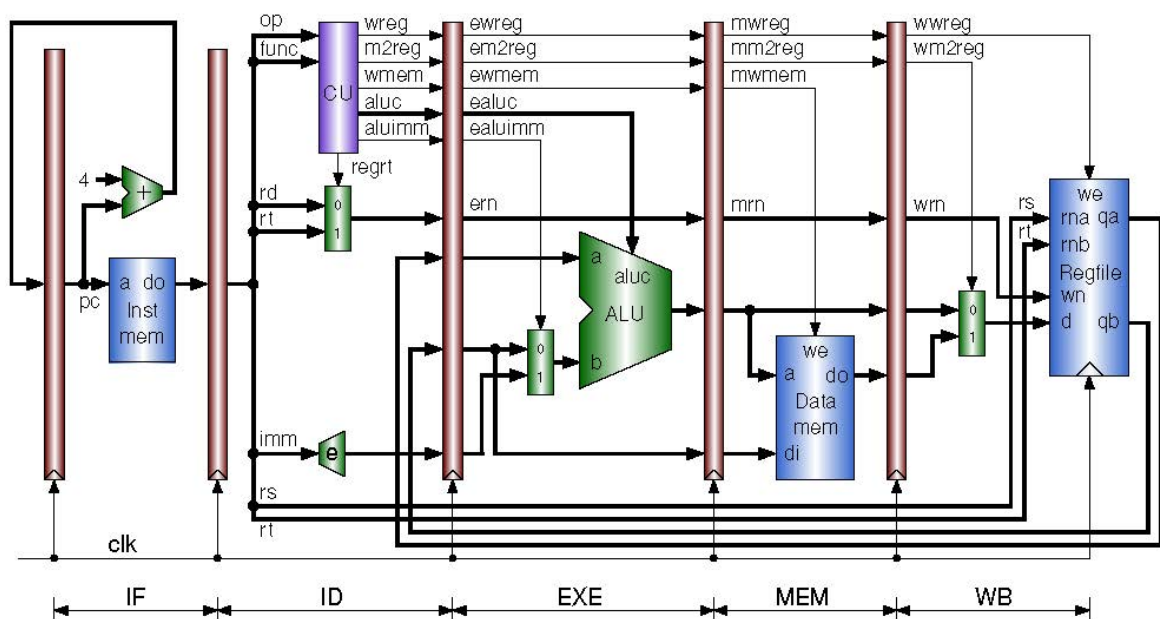
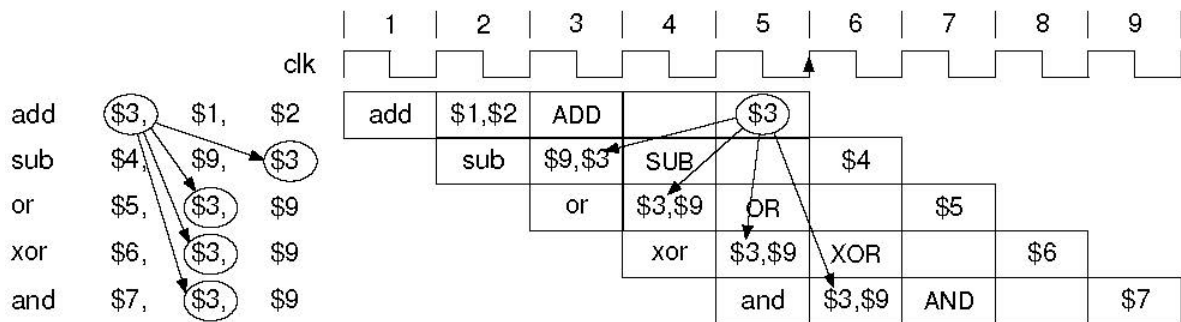

Figure 2 Writing result to the register file in the write back stage
Figure 3 Data hazard examples
In order to focus our attention on the WB stage easily, the baseline CPU shown in Figure 1 is redrawn by putting the register file on the WB stage where the execution result of an instruction is written as shown in Figure 2. The state of the art content can be read correctly in the ID stage after it is written at the end of its WB stage. Data hazards occur in the code example shown in Figure 3. You need to add the required components to solve the hazard problem and do forwarding if needed.
16. Write a Verilog code that implement the instructions using the design shown in **Figure 3**. Write a Verilog test bench to verify your code: (You have to show qa and qb signals that output from the Regfile block in your simulation outputs)